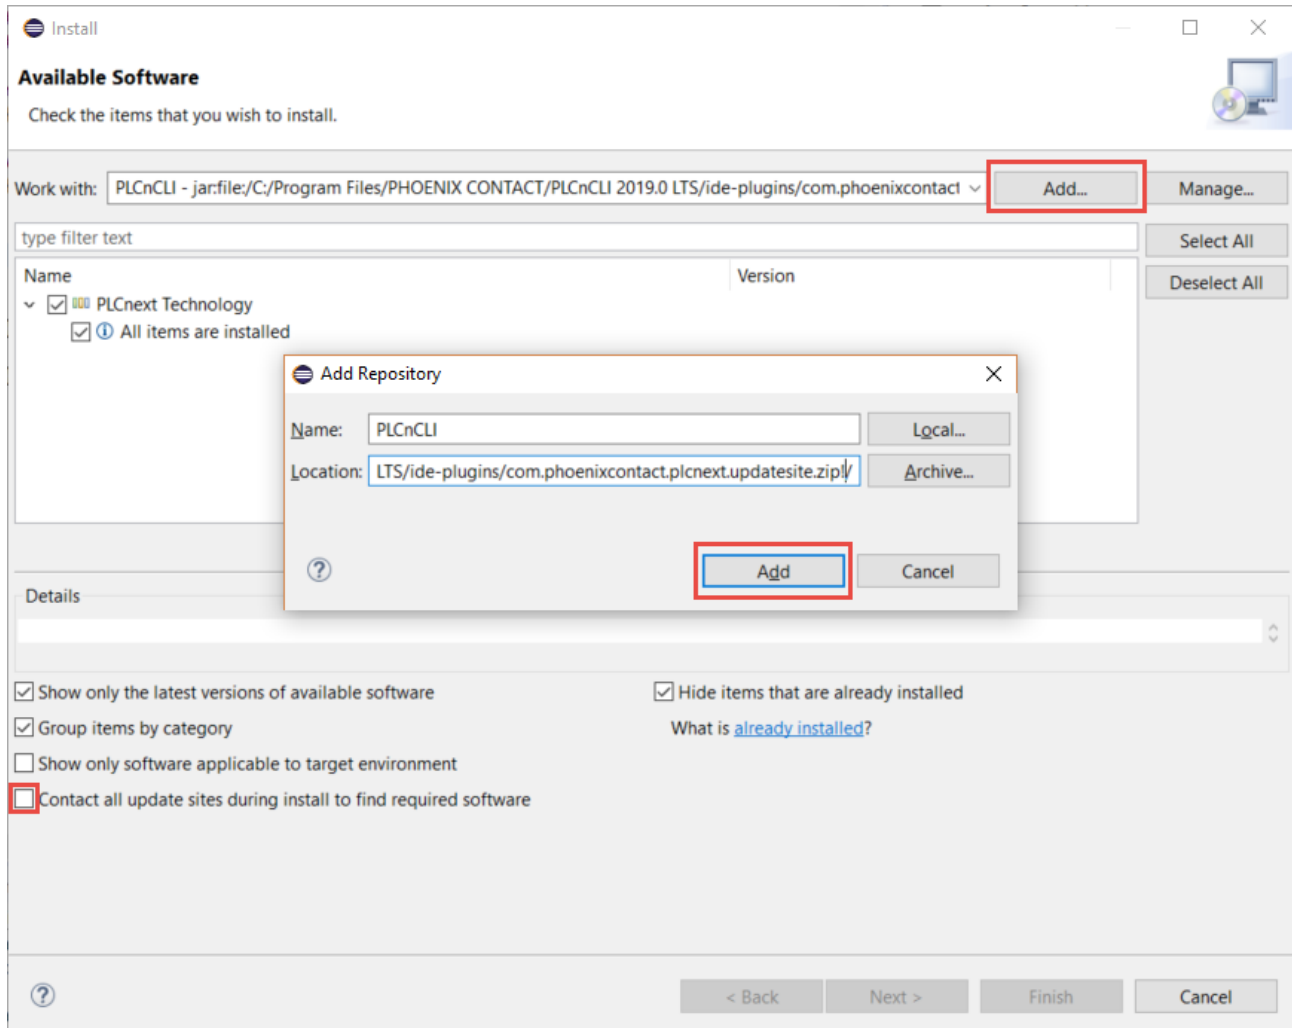

Figure 6-3 “Install” dialog
- To select the path to the directory of the add-in, click on “Add” in the “Install” dialog (see Figure 6-3).